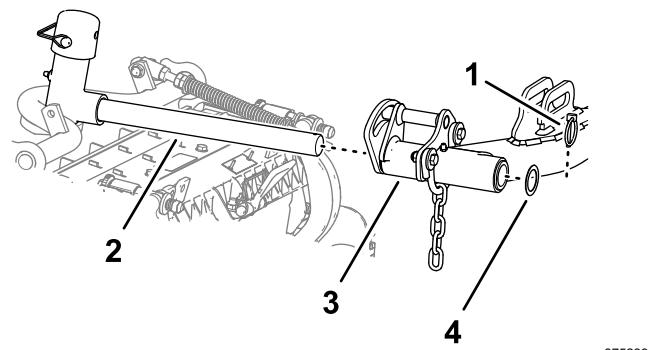

Figure 30
5. Slide a cutting unit under the lift arm (Figure 30).